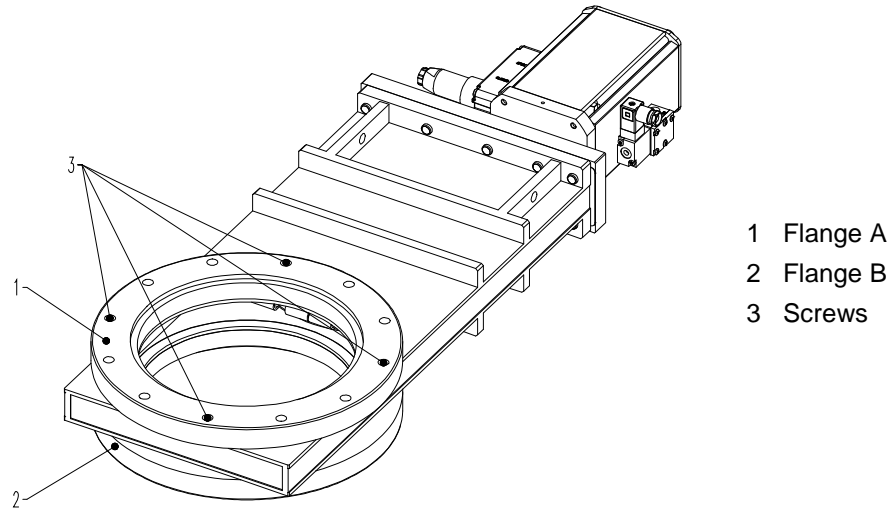

Figure 4-1
3. Clean sealing surfaces and seals of both flanges; see (1) and (2) according to «Figure 4-1» on page 10.
5. Mount the four screws (3) according to «Figure 4-1» on page 10, evenly in crosswise order until the seal touches the sealing surface.